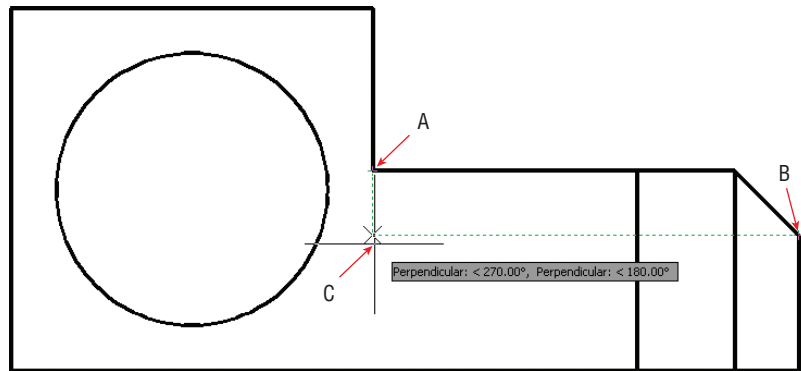

FIGURE 3.17 Drawing a rectangle by tracking its first corner
7. Click the Rectangle tool on the Draw panel. Move the cursor over the endpoint marked A in Figure 3.17 and, without clicking, move the cursor down to establish the first tracking line.
8. Move the cursor to point B in Figure 3.17 to track another endpoint. Move the cursor horizontally back to the intersection with the first tracking line, and click to establish the first corner of the rectangle (point C).